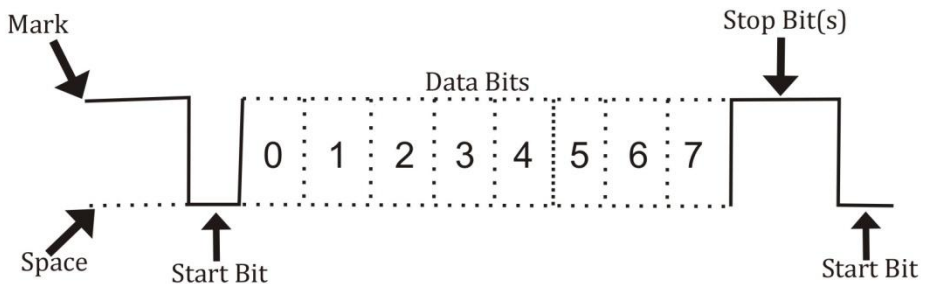

Figure 4.1 Serial communication format[1].
Asynchronous means "no synchronization", and thus does not require sending and receiving idle characters. However, the beginning and end of each byte of data must be identified by start and stop bits. The start bit indicates when the data byte is about to begin and the stop bit signals when it ends. The requirement to send these additional two bits causes asynchronous communications to be slightly slower than synchronous. When transmitting a byte, the UART (serial port) first sends a START BIT which is a positive voltage (0), followed by the data (general 8 bits, but could be 5, 6, 7, or 8 bits) followed by one or two STOP BITS which is a negative(1) voltage. The sequence is repeated for each byte sent. Figure 4.1 shows a diagram of a byte transmission would look like.